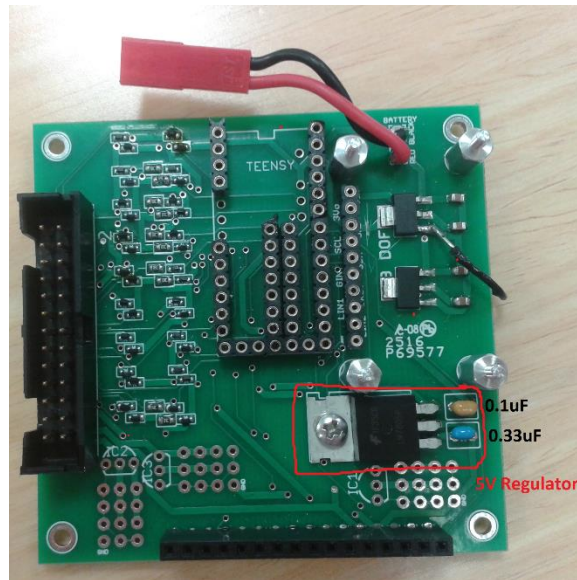

Figure 8. 5V Through-Hole Capacitor
Some of your sensors might run on 5V. The board has a separate 5V line, powered by a through-hole (TH) regulator (see Figure 8), for those sensors. The 5V power for the Teensy and sensors are separated to protect the expensive Teensy from any power surges that your sensors might cause. The values of the bypass capacitors for the TH regulator are shown in Figure 8. Be sure to solder the back of the regulator. This solder plane will serve as a heatsink. Screw the top of the regulator to the board.